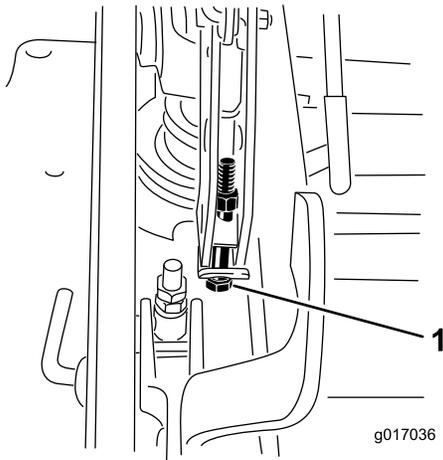

**Figure 97**
10. To adjust the single-point system, loosen the 2 bolts at the bottom of the height-of-cut plate (Figure 97).
12. Tighten the 2 bolts at the bottom of the height-of-cut plate (Figure 97).